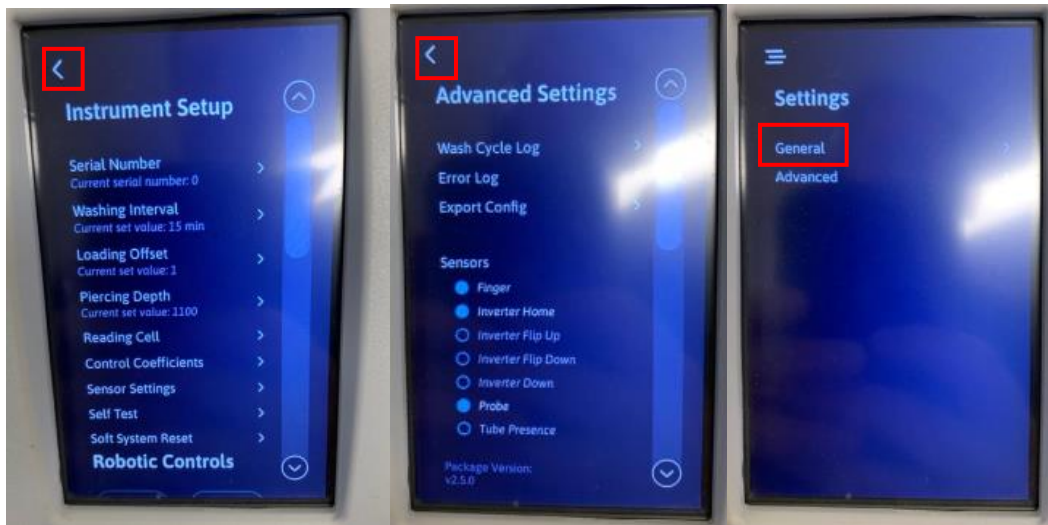

Figure 45
- 10.4. Select back arrow 2X to return to the Settings Menu and select General. Figure 45.